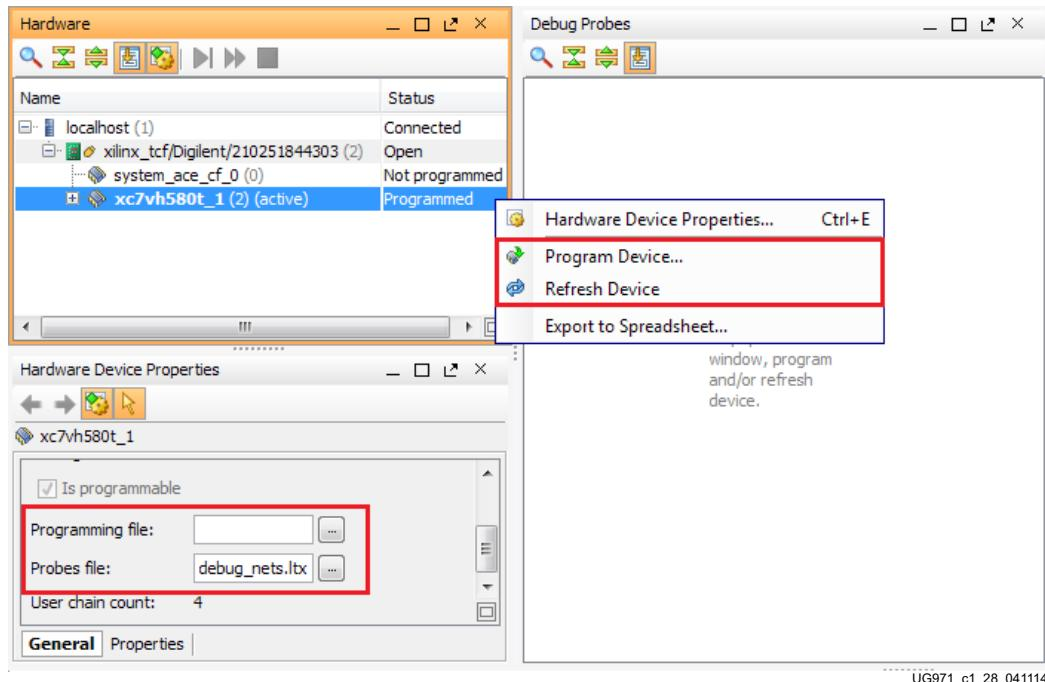

Figure 1-28: Program/Refresh Device
2. In the Hardware window, right-click **XC7VH580T_1** and select **Refresh Device** (Figure 1-28).